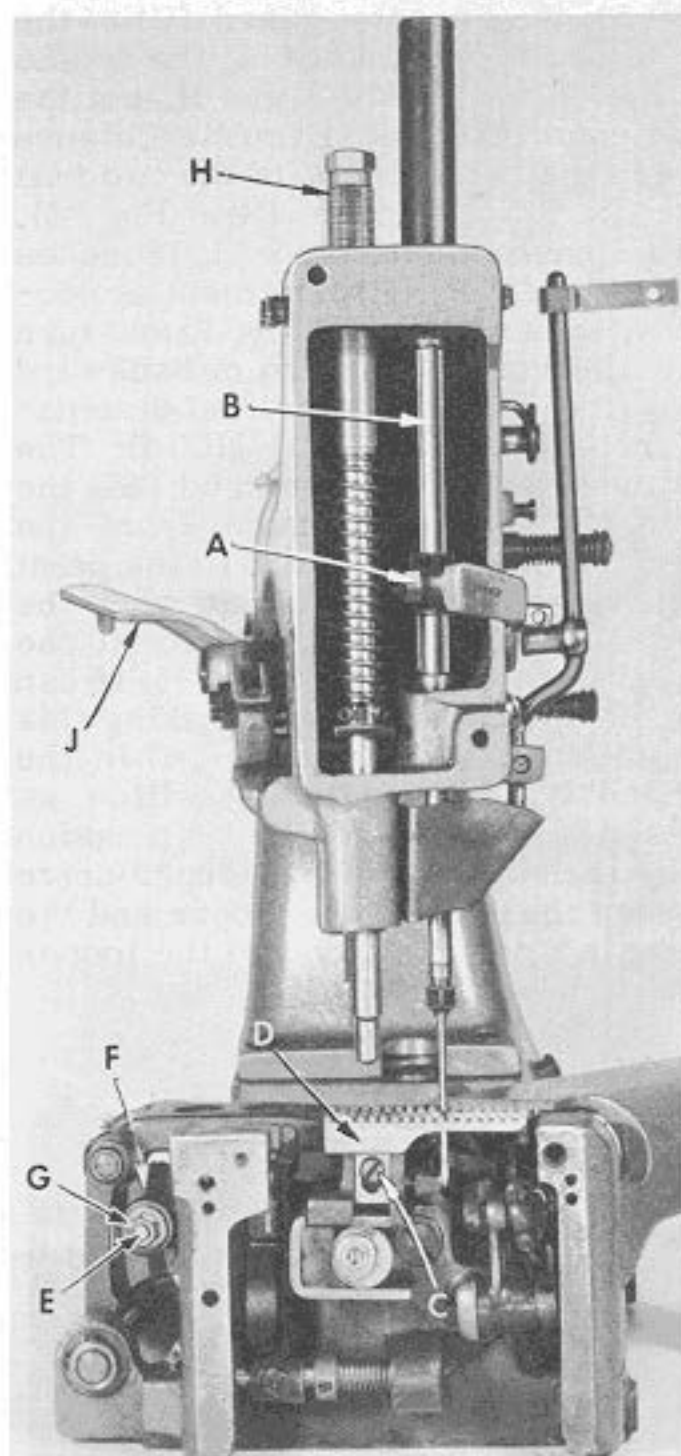

Fig. 5
Regulate the pressure on the presser foot using the presser spring regulators (H, Fig. 5) so that the springs exert a pressure sufficient to feed properly. A comparatively heavy pressure is usually required. There should be approximately $1/16$ inch free play in the presser foot lifter lever (J, Fig. 5) when the presser foot is down.
throat plate at this point. This can be accomplished by removing the feed dog holding screw (C, Fig. 5) and feed dog (D), then adjusting the stop screw (K, Fig. 2) in feed bar (B) as required to maintain the prescribed setting. Assemble feed dog (D, Fig. 5) and feed dog holding screw (C).
The length of the stitch can be adjusted by raising or lowering the stud (E, Fig. 5) in the segment slot of the feed rocker (F). This can be accomplished by loosening nut (G), lowering stud (E) will lengthen the stitch and raising the stud will shorten the stitch. When desired stitch length position is obtained, retighten nut (G).